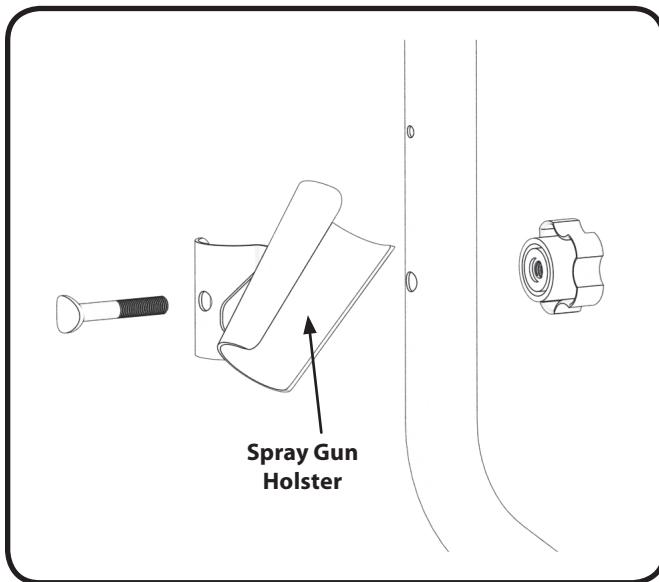

Figure 3-5
1. Mount the gun holster to the upright frame tube using the saddle bolt and knob provided. See Figure 3-5.